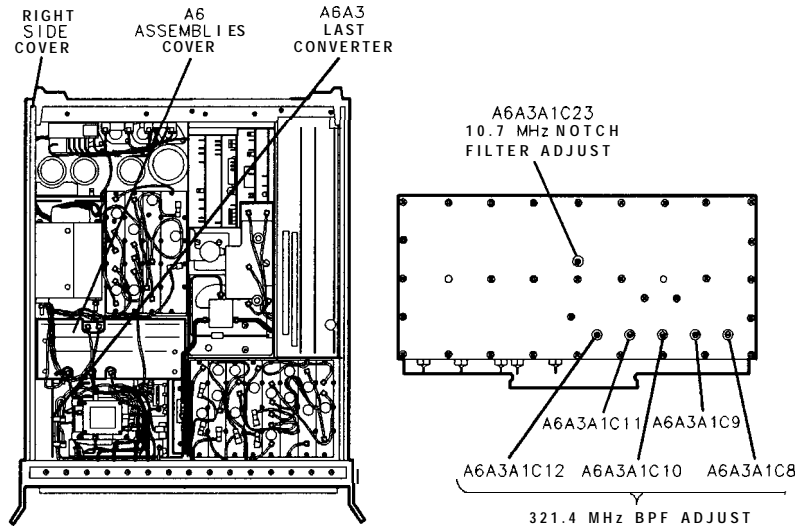

Figure 3-88. Location of Last Converter Adjustments
6. Adjust the five variable capacitors A6A3A1C8, A6A3A1C9, A6A3A1C10, A6A3A1C11, and A6A3A1C12 in the 321.4 MHz Bandpass Filter for maximum capacitance. The capacitors are visible through five evenly-spaced, unlabeled access holes in the bottom cover of the A6A3 Last Converter Assembly; position each capacitor with its adjustment slot vertical and plates fully meshed. Refer to Figure 3-88 for the location of A6A3A1C8, A6A3A1C9, A6A3A1C10, A6A3A1C11, and A6A3A1C12.
22. Locate the 10.7 MHz Notch Filter adjustment, visible through the remaining unlabeled access hole near the center of the bottom cover of the **A6A3** Last Converter Assembly (refer to Figure 3-88). Adjust **A6A3A1C23** to minimize the amplitude of the 10.7 MHz signal displayed on the second spectrum analyzer.